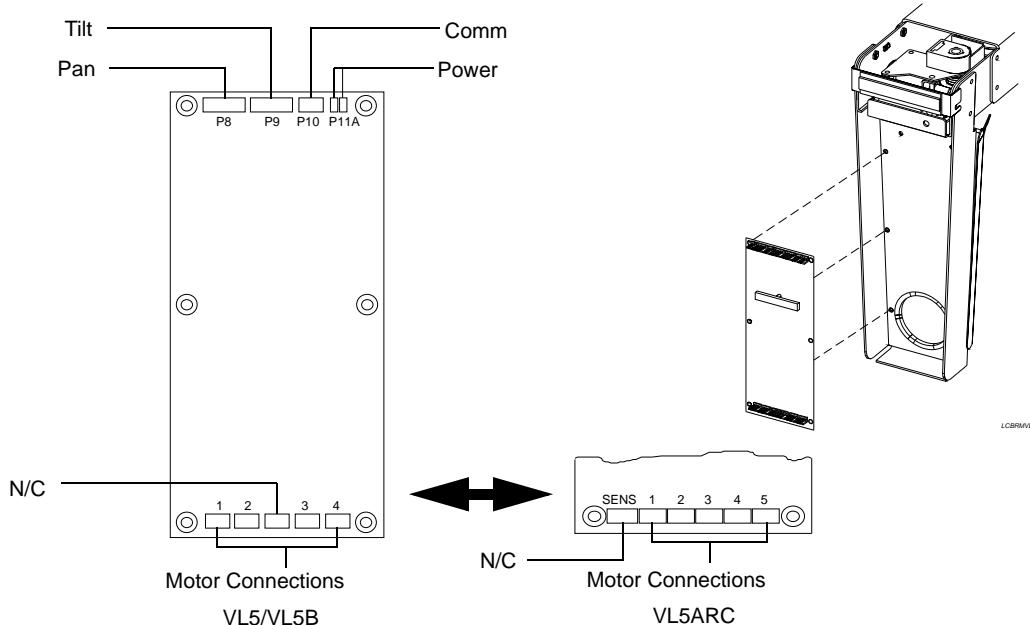

Figure 2-32: LCB PCB Replacement
Step 3. At LCB, disconnect all cables. **Figure 2-32.**